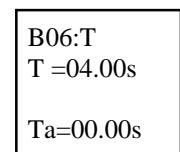

Fig. 6d
5. The display will read "B06:T" along with a time value (such as "T=09:00s" or some other value). At the bottom there is a "Ta" value that is displaying the accumulated time while the system is running. This value will probably be 00:00s (Fig. 6d).